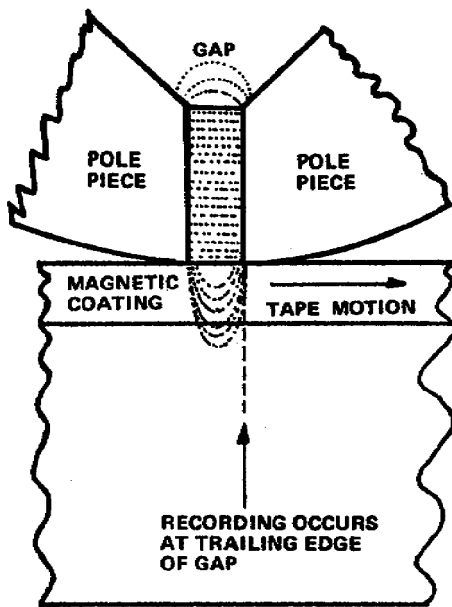
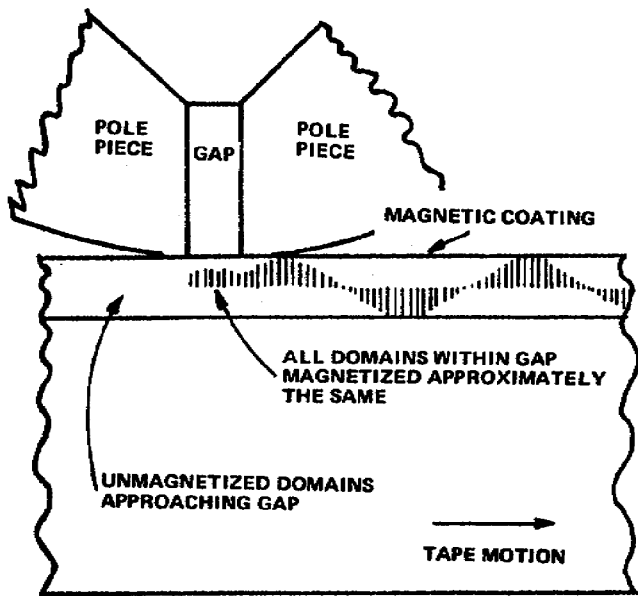

Figure 1-2. Simplified sketch of flux lines in a recording gap
Figure 1-3. Direct recording process
2. The flux density through a cross section of the magnetic circuit depends on the signal current and the medium through which the flux is passing. Since the flux density in the gap is lower than in the core, the flux lines spread out at the gap to form a bridging field (fig 1-2). When the magnetic tape is placed against the head, bridging the gap, flux lines from one pole piece enter the tape and return to the core at the other pole piece. The magnetic domains on the tape, which act like small permanent magnets, then align themselves along the flux lines to form a magnetic pattern depending on the direction and density of the flux lines when the tape leaves the gap. The pattern remains on the tape because the head has no effect after the tape passes the trailing edge of the gap (fig 1-3).